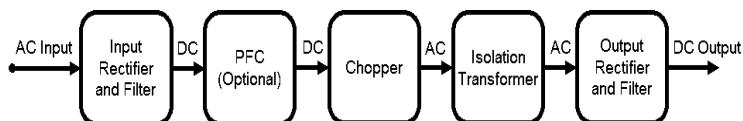

Figure 1: Isolated Switched-Mode AC/DC Power Supply
Figure 1 illustrates the general transformation from alternating current (AC) to direct current (DC) in a switching power supply.